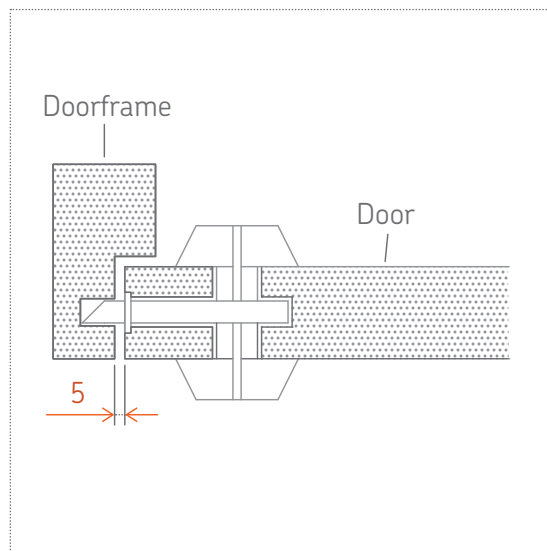

Figure 4: The tolerance between the door and the frame
- The **tolerance between the door and the frame** is defined as the space between the door and frame at the lock. (figure 4).